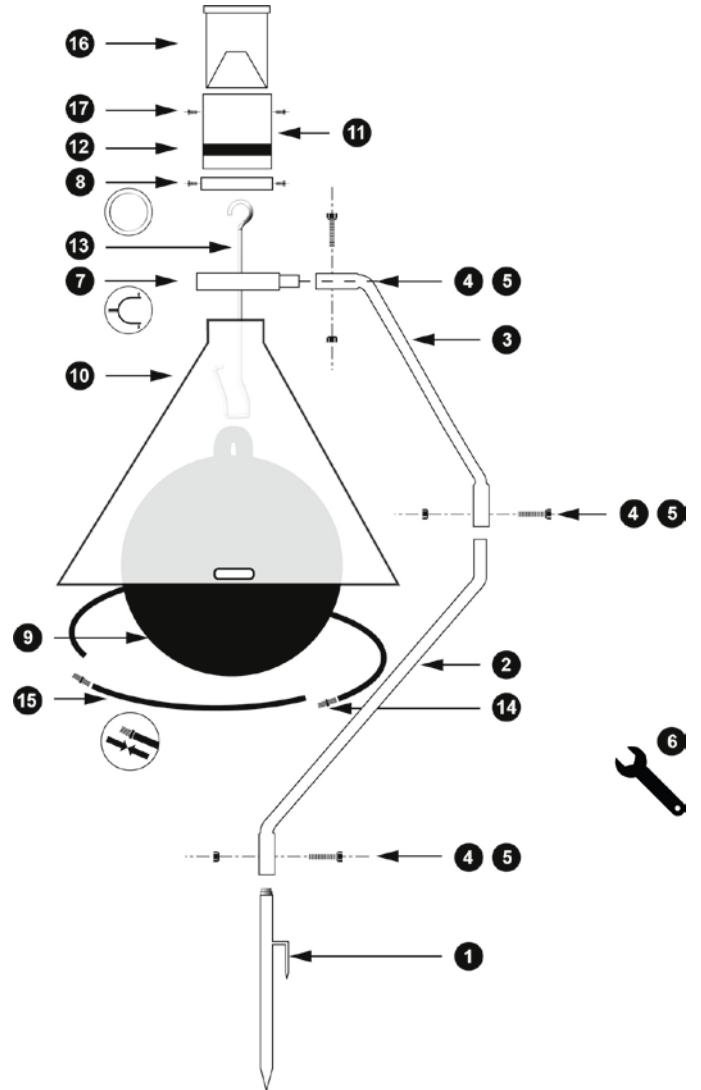
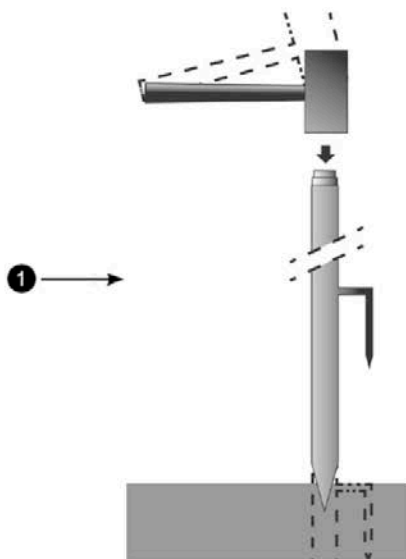

Figure 2: Hammer the base pipe (with Anti-rotation anchor) into the ground after testing the soil first. (See Figure 4)
Figure 3: The pipe connector (14) comes assembled with the reinforcement pipe (15).
2. Once the base pipe (1) is firmly set at your desired location, use a hammer to drive the frame into the ground until the anti-rotation anchor rod bar is completely touching the soil. (See Figures 2 and 4.)
3. Once the base pipe of the frame (1) is in the ground, you can either build the remaining portion of the trap on the ground or in place. If you choose the former method, which is our recommendation, save Step No. 5 until the end of assembly and have a partner help you lift the remaining frame and parts onto the base pipe in order to finish the installation.
4. Mount the middle pipe (2) onto the base pipe (1) and line up the holes before inserting the long bolt (4) and nut (5). Tighten the hardware with the two wrenches (6) supplied or use your own tools.
5. Mount the top pipe (3) onto the middle pipe (2) and line up the holes before inserting the long bolt (4) and nut (5) and tightening. *(Before assembling the remaining frame pipes, review page 4 to distinguish the shapes of #s 2 & 3 and align ends accordingly.)*
6. Mount the bracket (7) onto the top pipe (3) and line up the holes before inserting the long bolt (4) and nut (5) and tightening. *(Note: The stabilizing ring (8) and bracket (7) usually come pre-connected with one set of M8 bolts (17)).*
7. Next connect the metal holder (11) to the stabilizing ring (8) by unscrewing and using the two stainless steel M8 bolts (17) attached to the metal holder (11).
8. Before attaching the green conical hood/ funnel (10) to the metal holder (11), insert the plastic pipe connectors (14) and funnel reinforcement pipes (15) into the hole found at the bottom inside edge of the funnel; feed one section at a time. (See Figure 3) (#s 14 and 15 are usually preconnected.) The final connection will be made when all three pipes and connectors have been secured. *(Note: Having another person on hand to help you feed the reinforcement pipes and connectors through the skirt of the funnel is helpful. Applying a very small amount of food oil onto a cloth and wiping each section of the piping beforehand will also help slide these plastic parts through more easily.)*
9. Place the funnel (10) onto the metal holder (11) by means of the Velcro band (12).
10. Inflate the ball (9) using only the pump included in the box, and have the white plastic plug ready. (Using a stronger air compressor could damage the ball; if used, it will void the warranty.) Inflate the ball to approximately 20 inches in diameter. *(Note: a soft, saggy ball after initial inflation will not affect tabanid catches as the heat from the sun will further expand the ball.)*
11. Lift up the funnel (10) to mount the ball (9) onto the metal holder (11) using the ball hook (13). Attach the L shaped end of the ball hook (13) to the ball. The curved end of the ball hook attaches to the hole in the metal holder (11).
12. If you have assembled the H-Trap on the ground, now connect the base pipe (1) to the middle pipe (2). See Step No. 5 above.
13. Set the collection bin (16) atop the holder (11). Make sure that the lid locks into the bin.